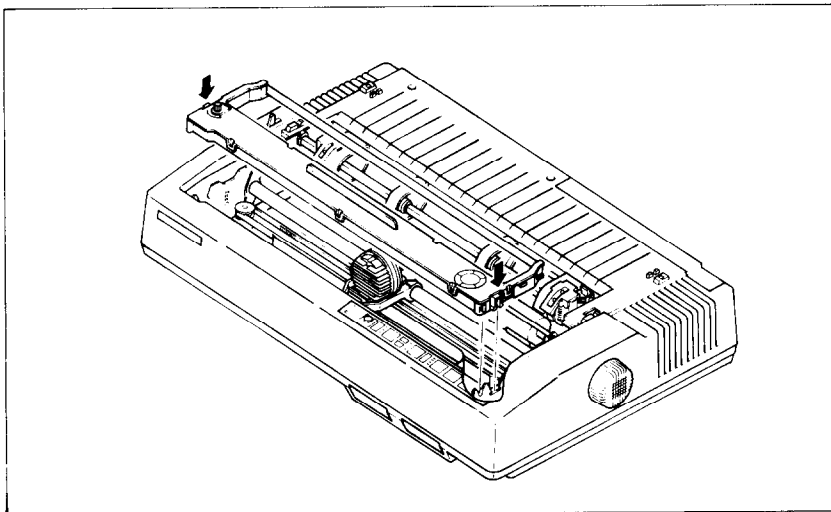

Figure 1-5. Press the cartridge into place until the holding springs snap into place.
3. Using the guide holders as a fulcrum with the ribbon facing away from you, as shown in Figure 1-5, lightly press the cartridge down until the two holder springs snap shut to hold the cartridge firmly in place.